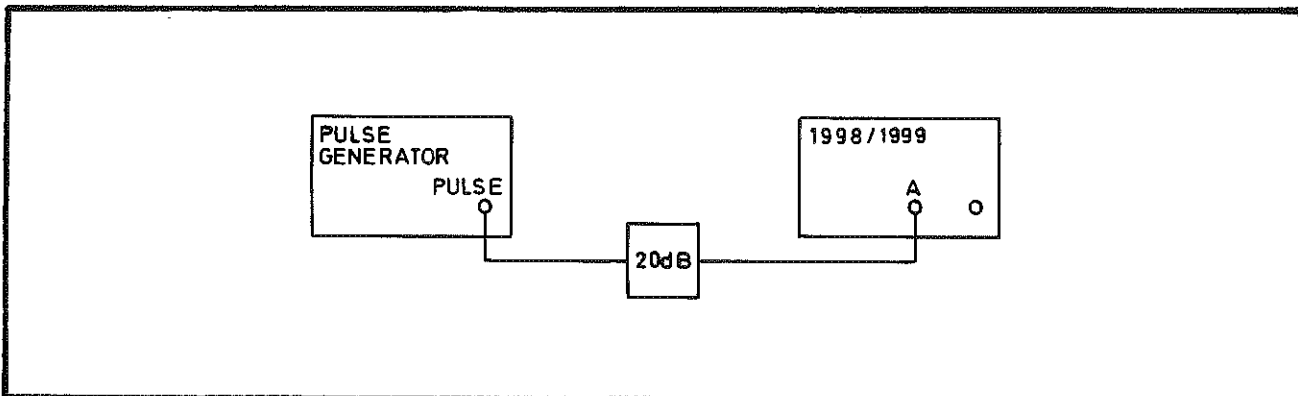

Fig 7.21 Connections for the Channel A Pulse Offset PVP
75 (1) Connect the test equipment as shown in Fig 7.21